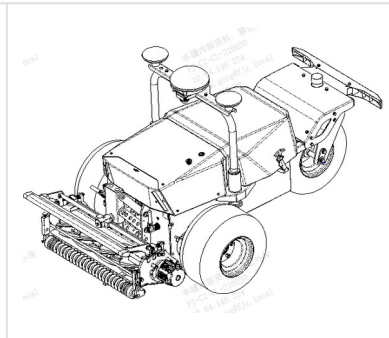

Figure 15
11. Assemble the cutting deck and front bumper (as shown in Figure 15).